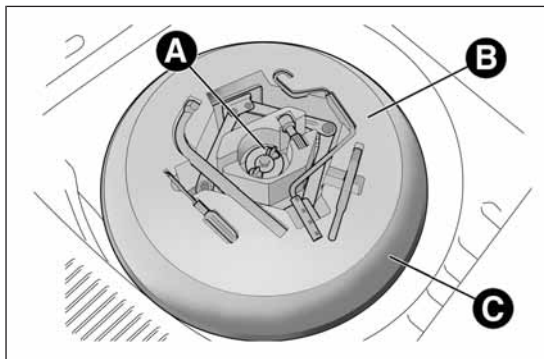

fig. 117
- ☐ unscrew locking device A fig. 117, take toolbox B and bring it next to the wheel to replace. Then take the space-saver wheel C;